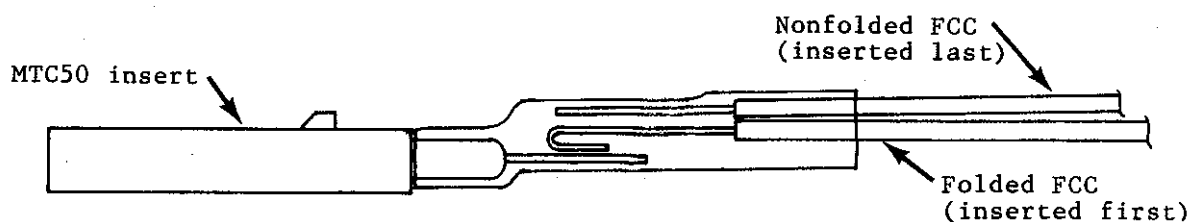

Figure 5-5. Both FCC's Inserted Into Boot
2. (Inserts with 1-1/2 or two layers of FCC only) Insert the remaining (nonfolded) FCC into the boot on top of the folded FCC (Figure 5-5).